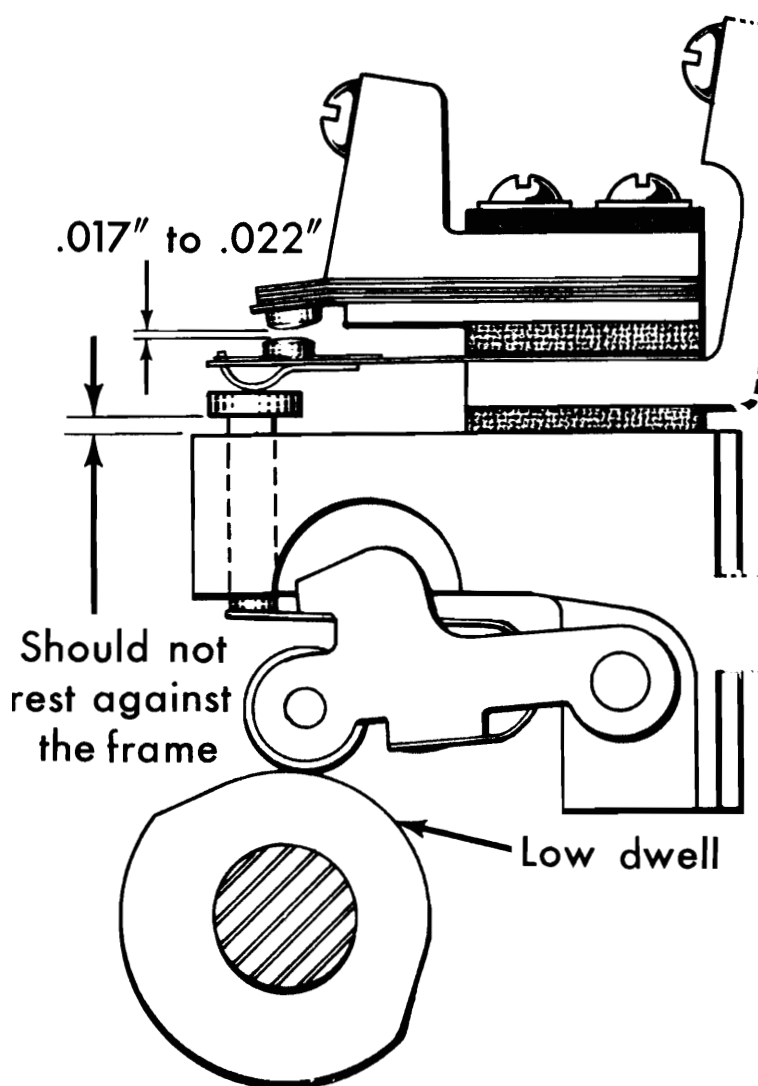

Figure 18. Plunger Circuit Breaker,
4. With the circuit breaker assembly attached to the mounting bar by the holding screw (Figure 18), turn in on the adjustment screw to obtain a contact air gap of .017" to .022" when in the low dwell of the cam.